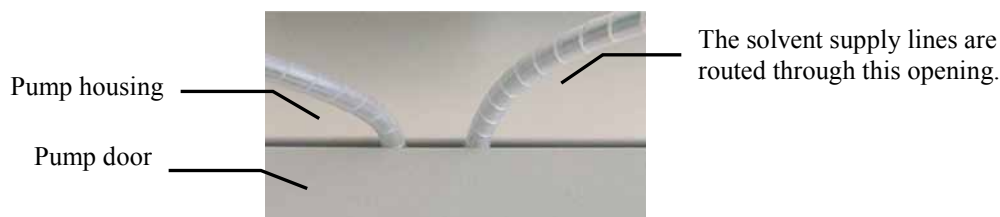

Fig. 10: Preconnected solvent supply lines (here on a DGP-3600)
1. If necessary, route the solvent supply lines through the opening between the front panel door and top cover (→ Fig. 10).